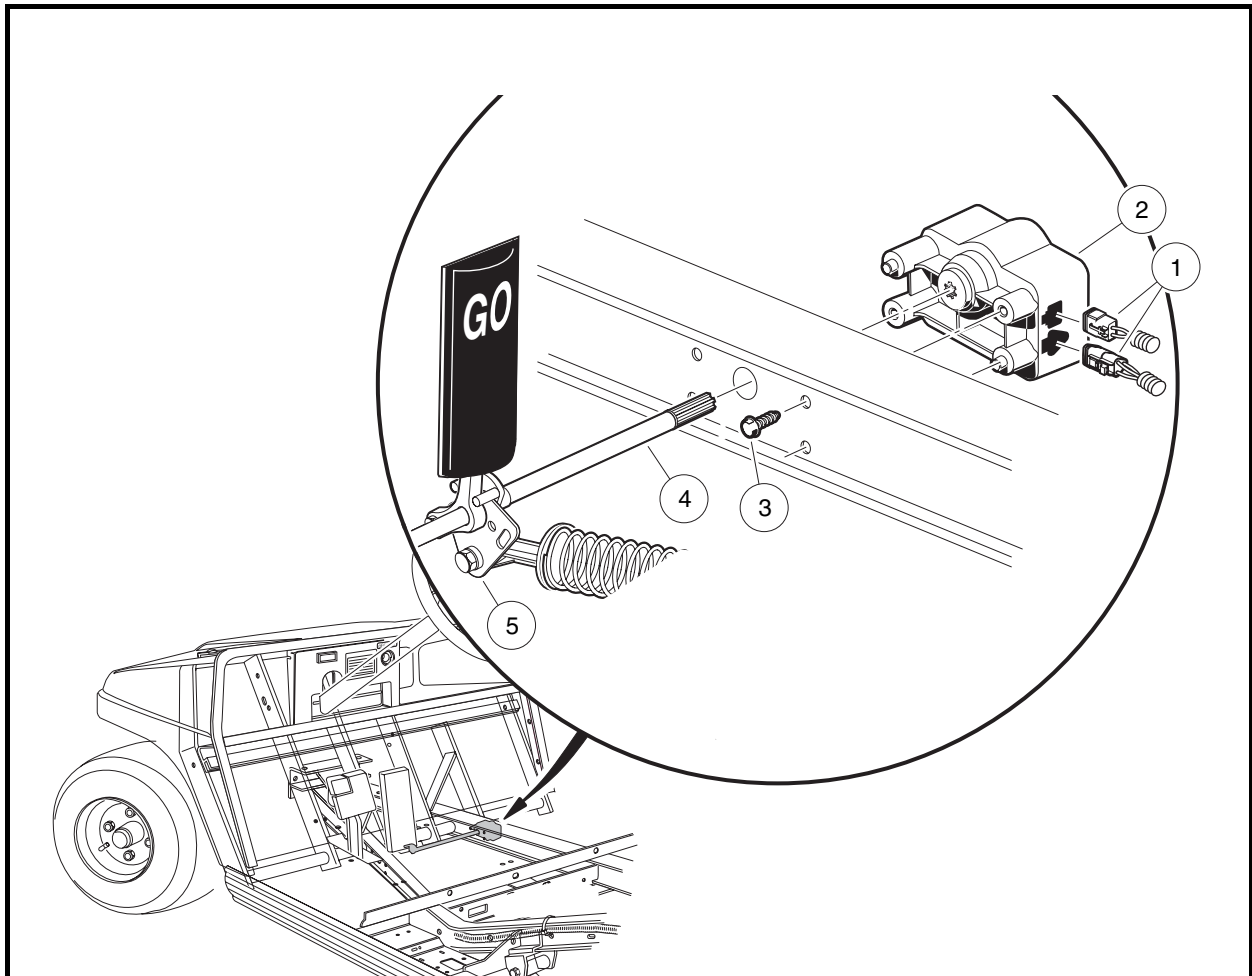

Figure 13-4 Motor Controller Output Regulator (MCOR) Mounting
3. Disconnect the two-pin and three-pin connectors (1) from the MCOR (2) (**Figure 13-4, Page 13-5**).
4. Remove the hex-head screws (3) connecting the MCOR to the frame I-beam.
6. Push the drive bar (4) into the hole in the I-beam to disengage it from the accelerator pivot rod (5).
1. Insert the splined end of the drive bar (4) through the hole in the passenger-side frame I-beam as shown (**Figure 13-4, Page 13-5**).
3. Place the MCOR (2) onto the splined end of the drive bar (**Figure 13-4, Page 13-5**). **See following NOTE.**